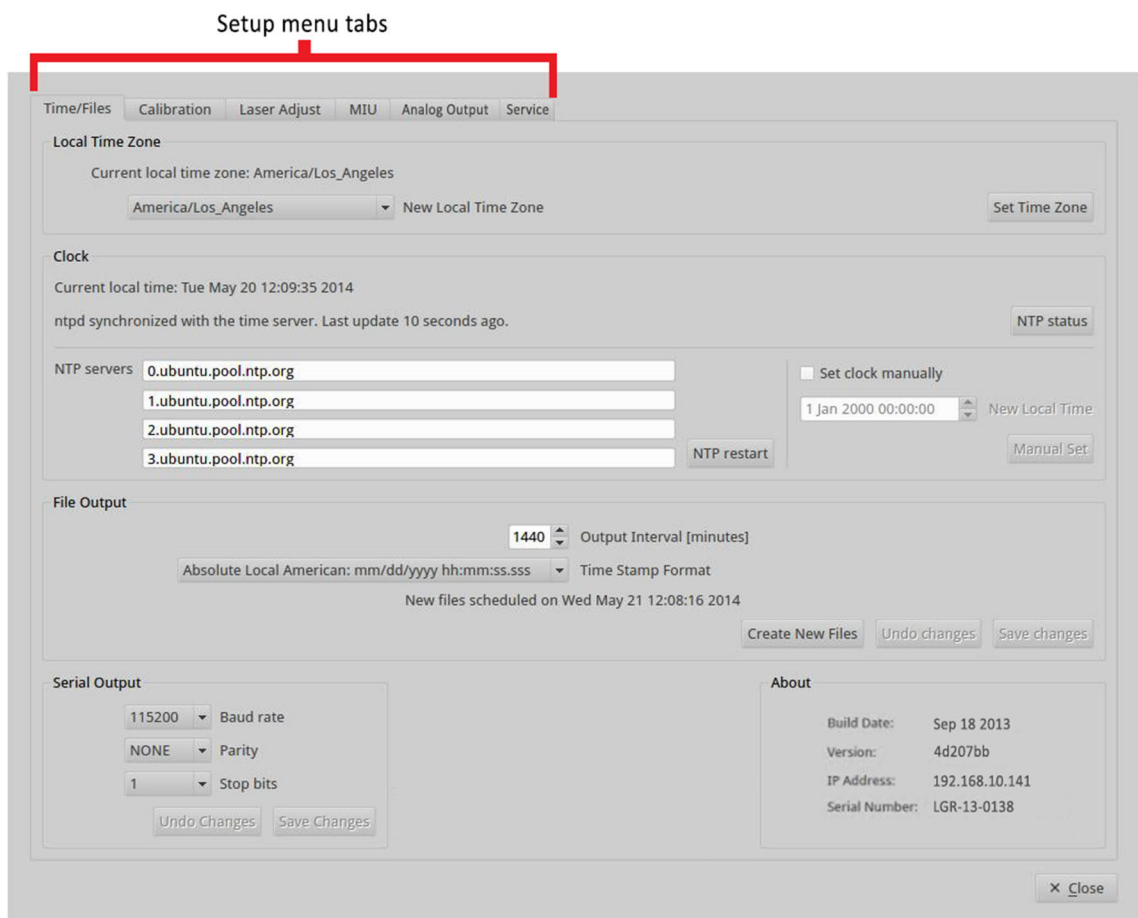

Figure 39: Setup Menu Tabs with Time/Files Screen Selected
2. The default *Time/Files* screen is displayed. (Figure 39)
The *Setup* menu has function tabs at the top of the screen that allows you to configure the analyzer mode and settings. (Figure 39) These tabs will vary among analyzer types.